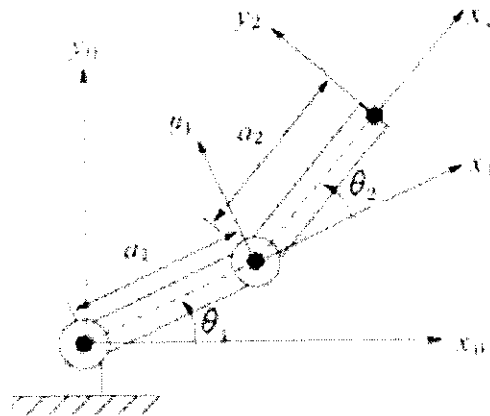

Figure Q5(a)
- Q5** a) Consider a two link RR robot manipulator. (Figure Q5(a)) with link length a_1 and a_2 . It is moving its end effector along the X_0 axis at $1m/s$ constant speed.
- (i) Derive the Jacobian (J) for the above manipulator and hence obtain the relationship between the end effector linear velocity $\begin{bmatrix} \dot{x}_2 \\ \dot{y}_2 \end{bmatrix}$ and joint velocities $\begin{bmatrix} \dot{\theta}_1 \\ \dot{\theta}_2 \end{bmatrix}$.